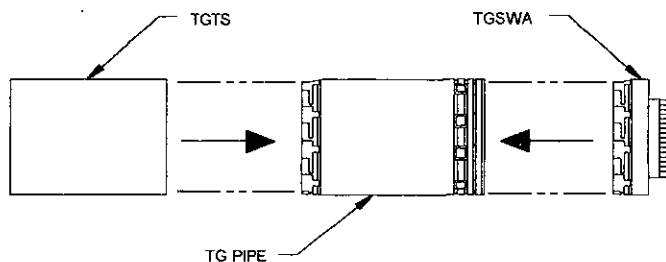

FIG. 7a
9. Slip a trim sleeve joint cover (TGTS) over the male end of TG pipe that is to reach through the wall firestop to the tee. Attach single wall adaptor (TGPSWA) to the female end of TR pipe and slip TGTS flush to the end of TGPSWA. (See Figure 7a and 7b.)